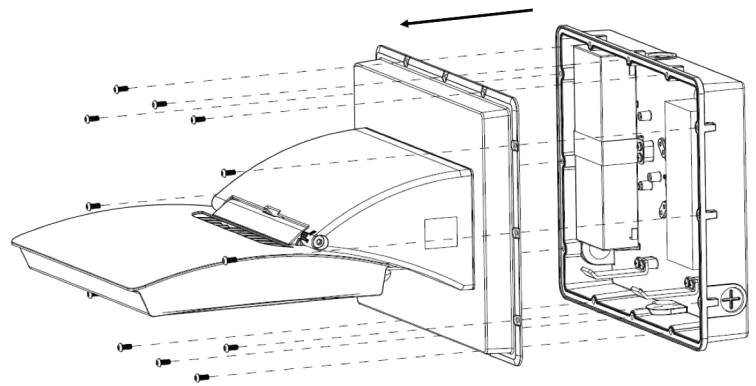

Fig. 2
2. Remove the twelve (12) M4 hex head screws and set aside for later use. Separate the fixture and EM extension cover from the EM extension box (**Figure 2**).